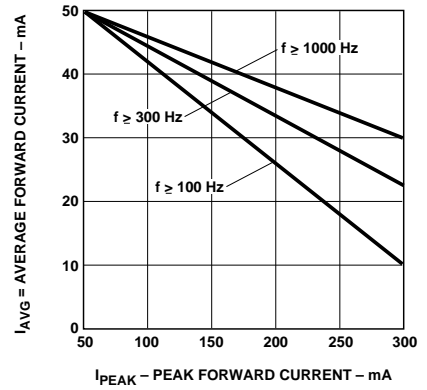

Figure 13. Maximum Average Current vs. Peak Forward Current.
- Any pulsed operation cannot exceed the Absolute Max Peak Forward current as specified in Figure 13.